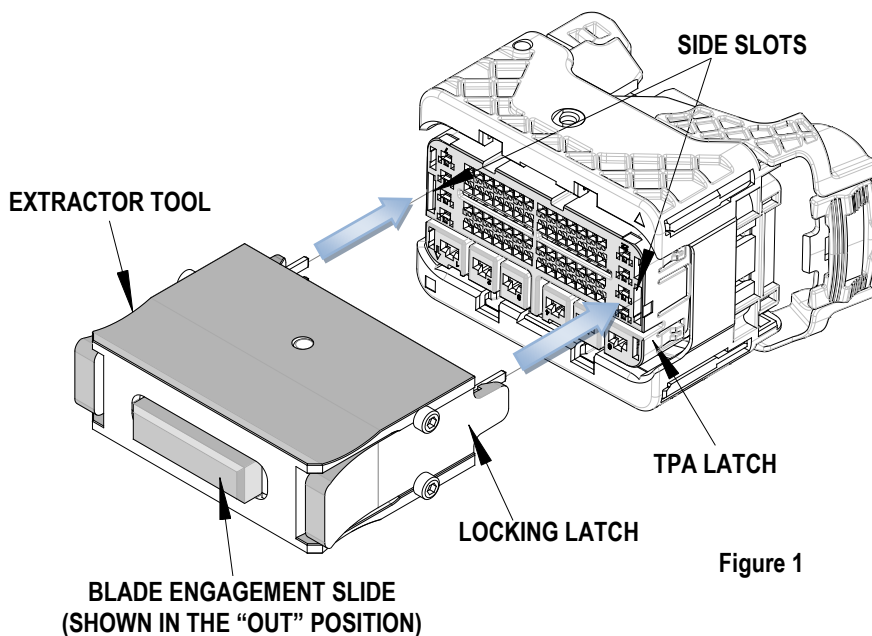

Figure 1
1. Insert the tool into the (2) side slots of the (TPA) secondary lock on each sides until it stops. See Figure 1. The (2) two catch pivots on the sides of the tool will engage the TPA.